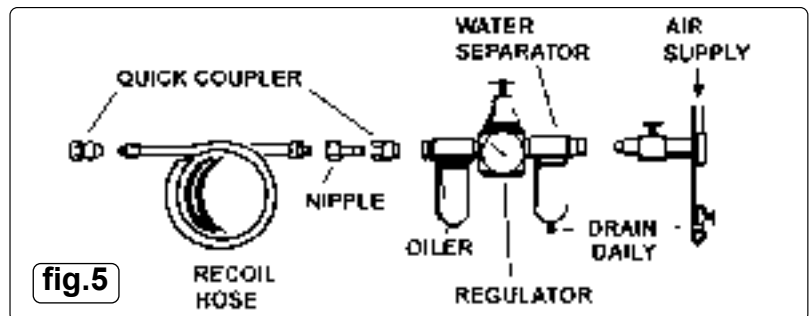

fig.5
4.8. CONNECT THE WORKSHOP AIR SUPPLY. Recommended hook-up procedure is shown in fig.5 below.